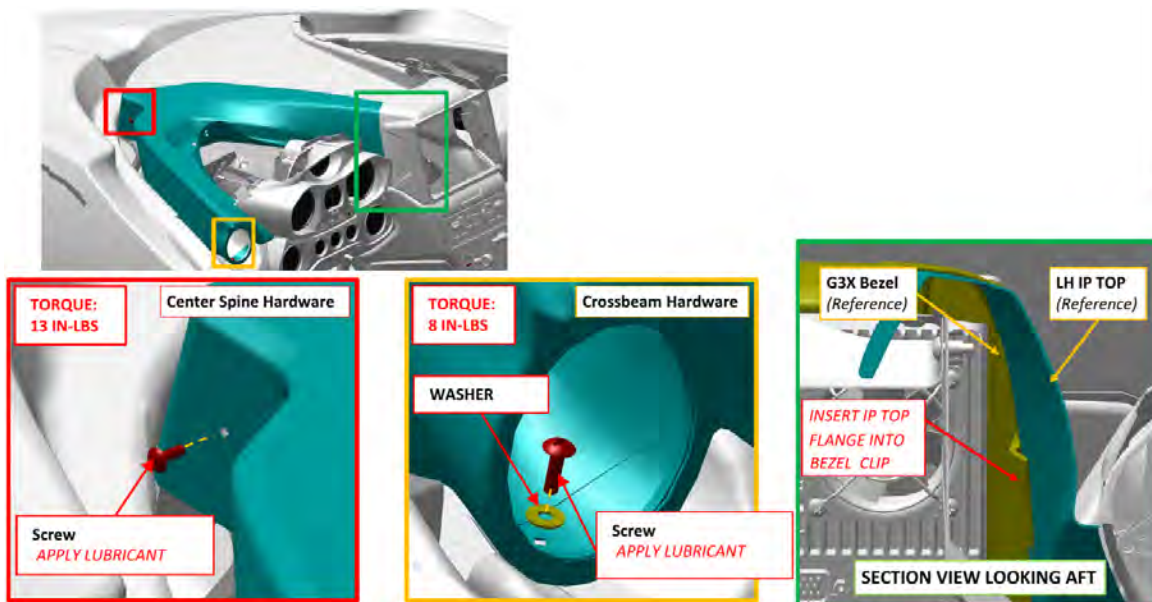

FIGURE 9-14
2. Disconnect IP top flange from the Garmin G3X Bezel clip. Disconnect LH and RH IP tops. (See Figure 9-14.)